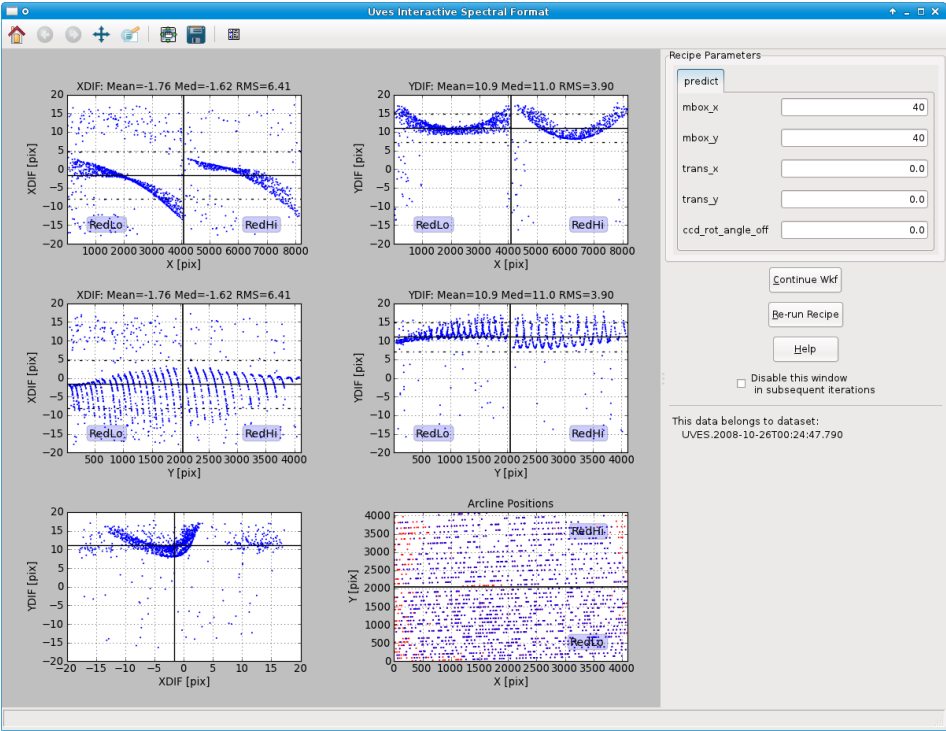

Figure 6.7: The interactive window for the Spectrum Locator actor for the first DataSet in the data supplied with Reflex 2.9..
6. `Spectrum Locator`: During the execution of the `Spectrum Locator` actor, an interactive window will appear as shown in Figure 6.7. The interactive window consists of six plots, five pipeline recipe parameters that may be changed, three buttons on the right, and a panel of buttons at the top-left. Help for each of these features may be accessed by leaving the mouse pointer for about one second over the plot/parameter/button for which information is required. Note that the recipe parameters are grouped via labels at the top of the “Recipe Parameters” box that may be left-clicked on to reveal the associated parameters.